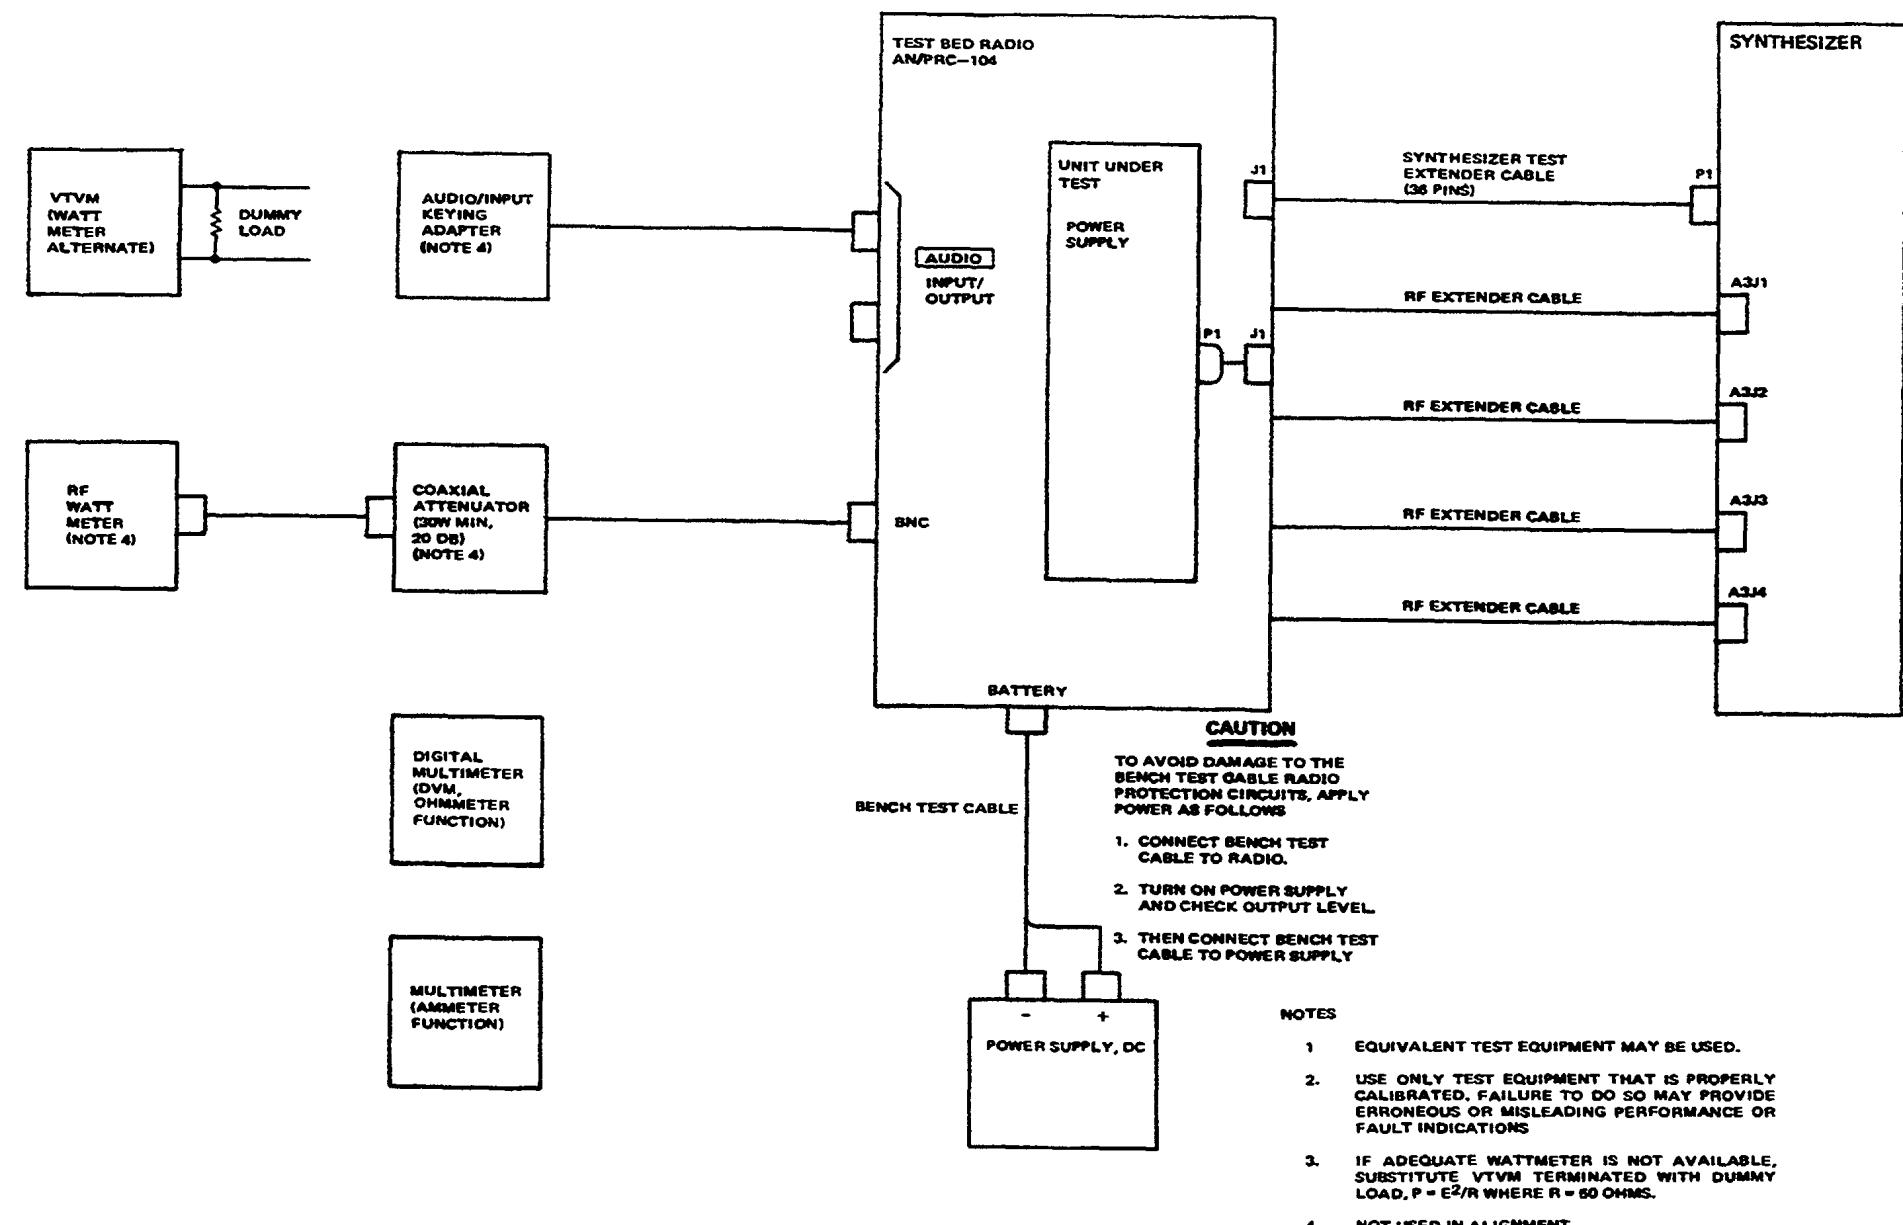

Figure 7-3. Power Supply A1A5 Performance Test and Alignment Setup
3. Except for the keying adapter sad watt meter, connect the test radio, cables, adapters and test equipment as shown in figure 7-3. Set the do power supply (7 amp) to +26.5v.